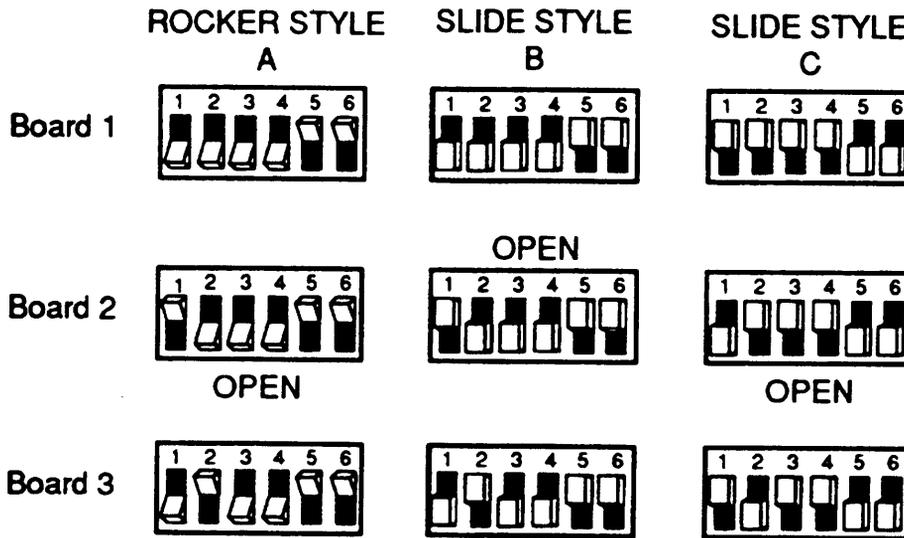

Figure 2-28. Settings for SW12.1
- If the board has unmarked slide switches, the setting of the second switch (SW12. 1) should correspond to one of the settings shown in Figure 2-28. Use the configuration letter at the top of the column in which the match is found.
The second switch (SW1 2.1) sets the board address. Figure 2-28 shows the correct settings for up to three boards in each of the three configurations.
1. Set the switches to match configuration **B** in Figure 2-28.
In the example above, Card 1 has an O.S. Index number of 2. Card 2 has an O.S. Index number of 3. You must change the DIP switch setting for Card 1 (the second board). Refer to Figure 2-28 for the correct switch settings. Go to Step 7 for instructions on making the change.
You can see that Card 0 has an O.S. Index number of 1. Card 1 has an O.S. Index number of 2. Therefore, you need to change the DIP switch setting for Card 0, which is the first board. Determine if the settings for Card 0 match Configuration **B** or **C** in Figure 2-28. If the settings match Configuration **B**, change the settings to those of Configuration **C**. If they match Configuration **C**, then change the settings to those of Configuration **B**. Proceed to Step 7.